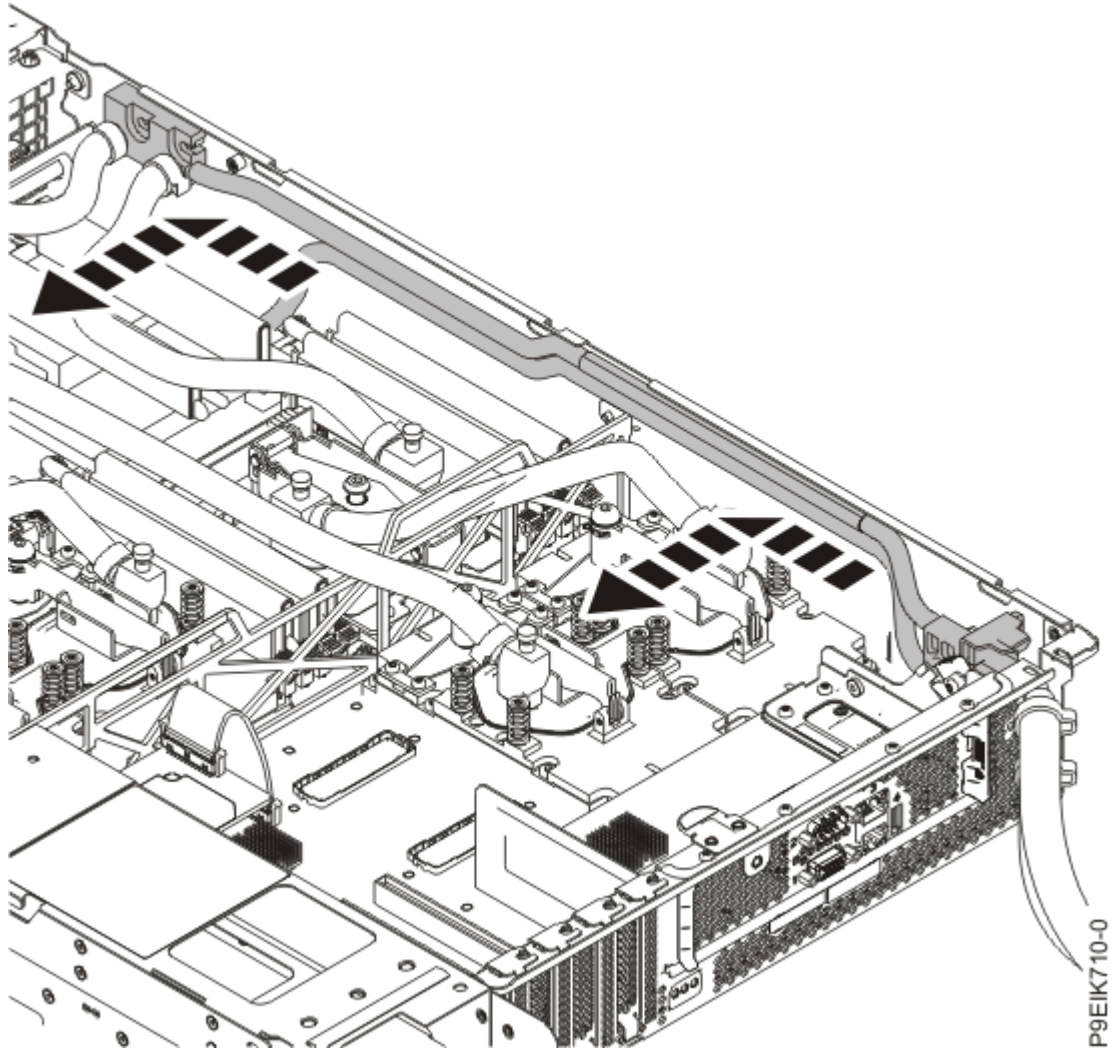

Figure 11. Loosening the side pipes
8. Pull the side pipes away and slightly forwards from the side of the system as shown in Figure 11 on page 15.